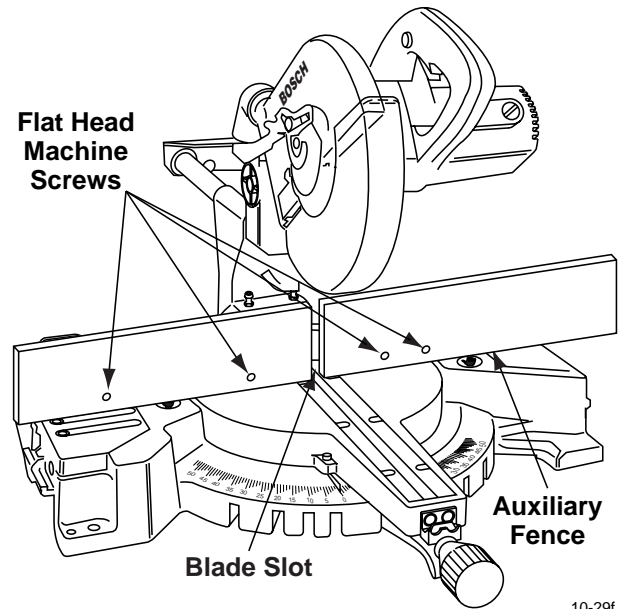

Figure 23. Auxiliary Fence
1. Place a piece of wood against the miter saw fence (Figure 23). (Wood can have a maximum height of 3-1/4". Check that head assembly does not interfere with auxiliary fence.)
4. Attach the auxiliary fence using three (3) 1/4" flat head machine screws. Make a full depth cut to create the blade slot. Check for interference between the auxiliary fence and the lower blade guard. Make adjustments as necessary.